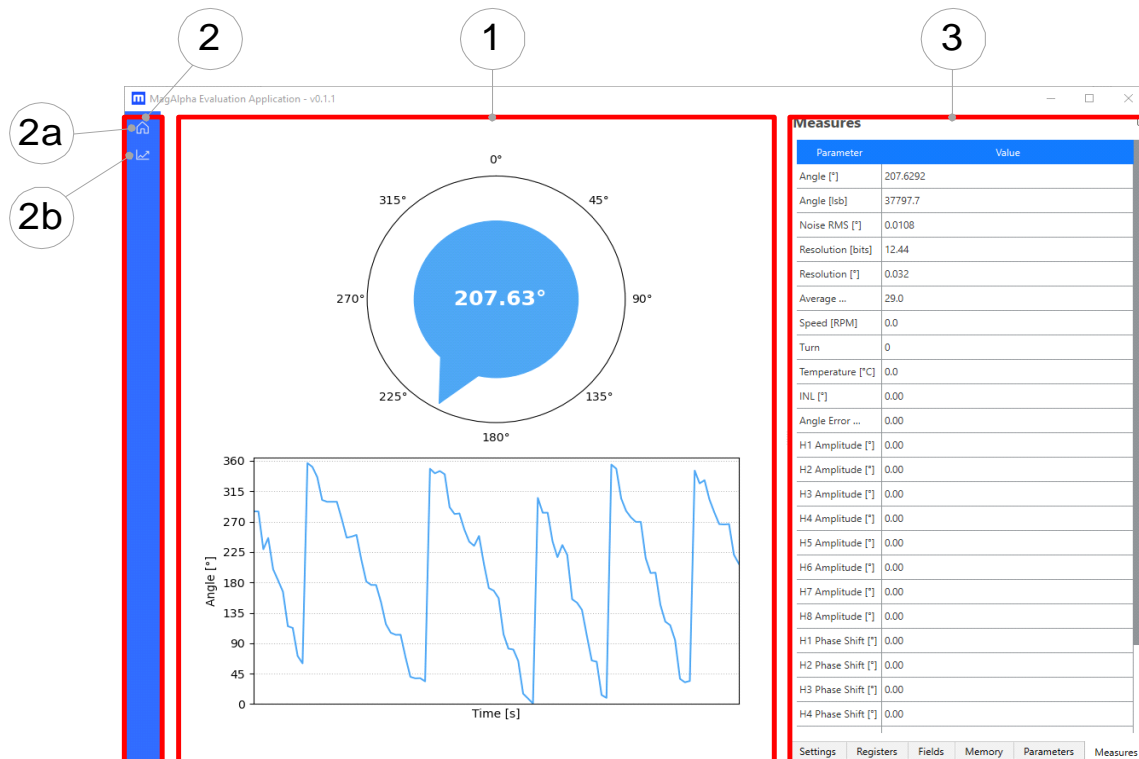

Figure 15: Application Layout
The application window is divided into different sections (see Figure 15). The sections are explained below.
8. **Wait Time Between Samples:** Defines the duration of the additional waiting time inserted between each angle measurement. The evaluation kit board reads the sensor's angle output as fast as possible. The actual sensor's sampling rate is influenced by the selected serial interface and its clock frequency. This parameter allows users to reduce the angle's sampling rate. This is especially useful for measurements that require at least one full rotation to compute the results. The measurements include the angle error, INL, calibration, and harmonics extraction. The median sampling period can be read on the Measures dock widget (see Figure 15 on page 11).
19. Show Locked Registers: Shows the locked registers and fields on the Registers and Fields dock widgets (see Figure 15 on page 11). By default, these registers are hidden.